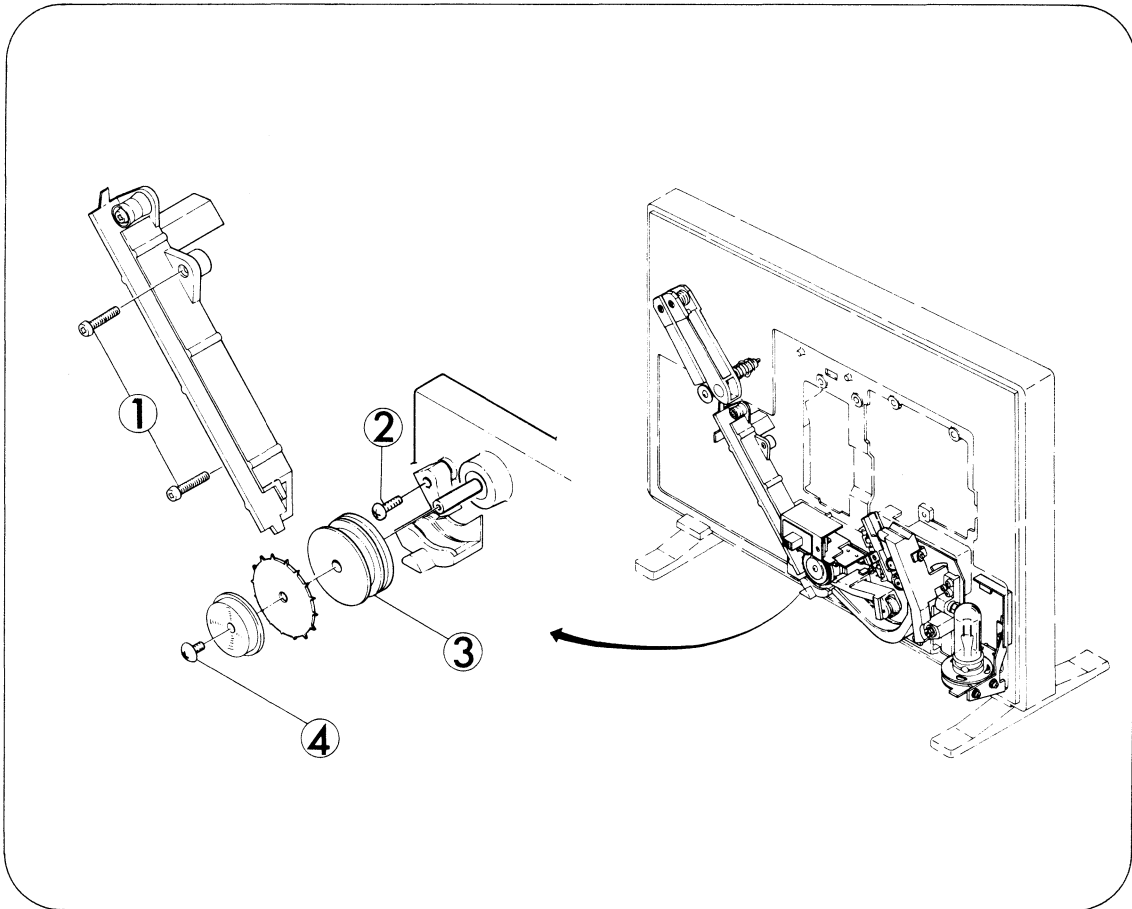

Fig. 14
## 2. SECOND SPROCKET (Fig. 14)
3. Pull out Second sprocket boss (Fig.14-3) as directed by the arrow in Fig. 14 and take out attaching screw (Fig.14-4), then remove Second sprocket cap and Second sprocket.
1. Attach Second sprocket and Second sprocket cap and pull out Second sprocket shaft as directed in Fig. 14, then tighten attaching screw (Fig.14-4).